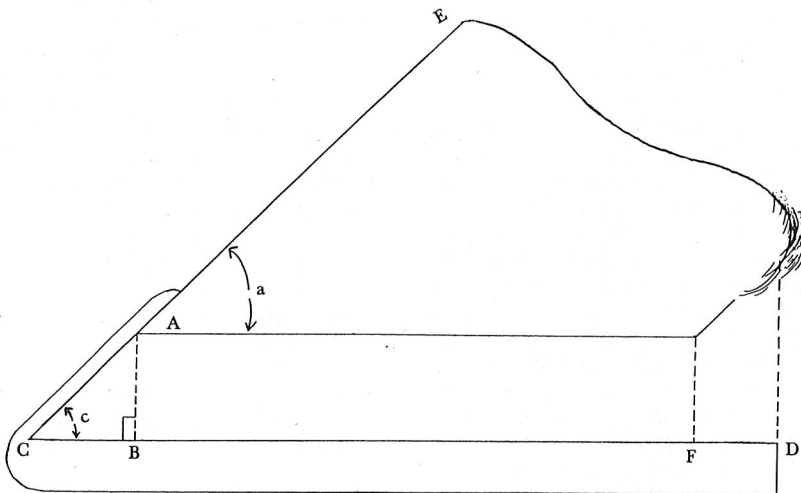

Figure 1
1. The package (build-up) to be made for the horse should be a continuation of the slope of the hoof from the toe around to the heels. As the slope changes, so does the package, so that a symmetrical shape is the end result, as in Figures 1 and 2.
2. Angle  $c$  in Figure 1 is the angle upon which all the figuring is based. Angle  $a$  equals angle  $c$  if a flat build-up is being done, but if wedges are to be employed, then angle  $c$  is the determining angle upon which the calculations rely.
When we do a build-up, there are some things that we already know. Length AE in Figure 1 is known, and length AC is desired (either by the owner or the trainer, or because that is the amount of a broken foot we have to replace). Angle *a* is known, and if the build-up is flat, so is angle *c* (it equals angle *a*). If wedges are used, then the calculation of angle *c* should be done. Length BF is known, and lengths CB and FD are desired.
decreases. This is necessary to obtain the results shown in Figures 1 and 2. Of course, the results in Figure 3 are from improper figuring or guesswork.